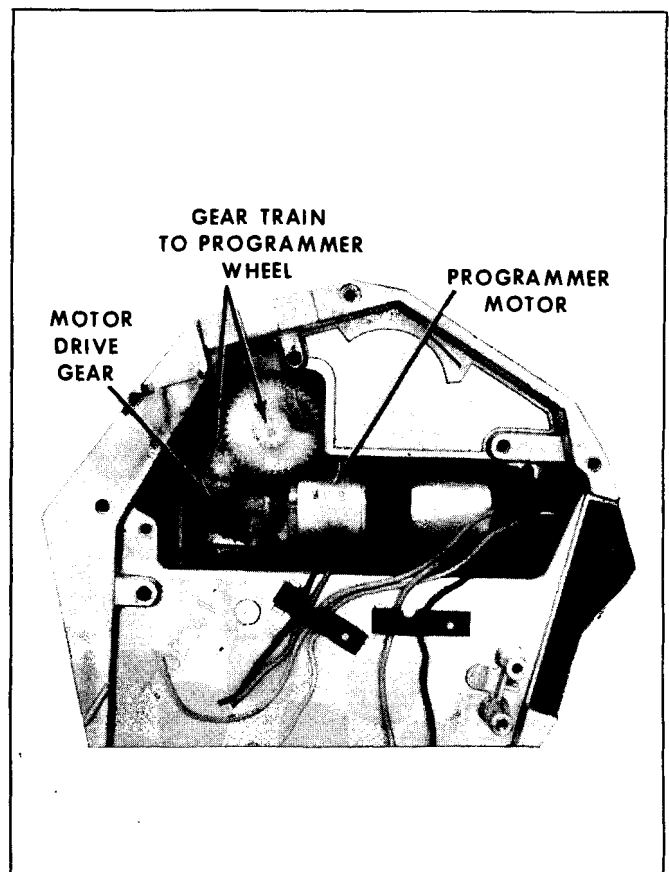

Fig. 1B-64 Programmer Gears and Motor
5. Inspect gears, Fig. 1B-64, for broken teeth or other abnormal conditions. Replace gears if broken or inoperative.